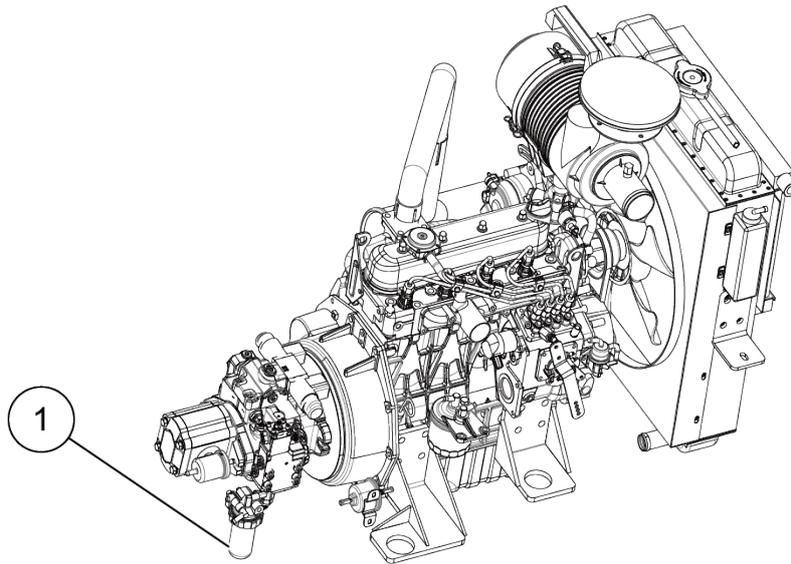

Figure 5-40 Draining fuel filter
(1) The pressure cap
Step 5: Stop the machine and unscrew the pressure cap (1) again after the engine is fully cooled. If the liquid level drops, the coolant should be added until the radiator is full filled with the coolant.
Step 3: Unscrew the drain knob (1) under the fuel filter to drain until the yellow liquid (diesel) flows out, as shown in Figure 5-40;